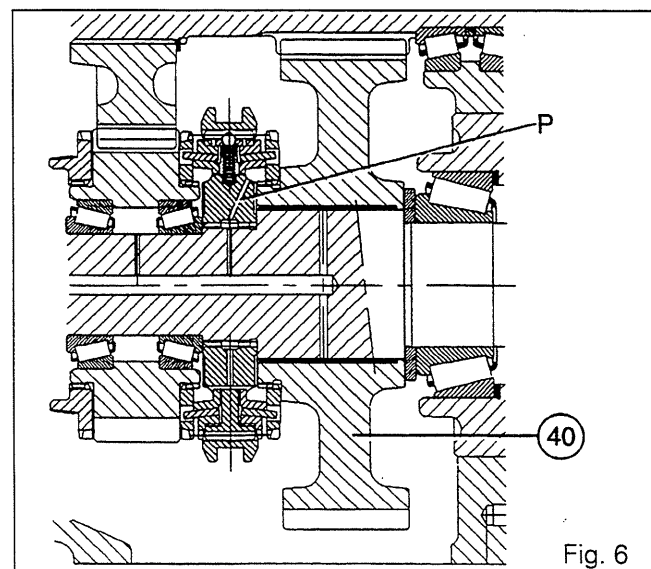

Fig. 6
24. Install the synchromesh assembly, with channel "P" or the paint mark oriented towards the Tortoise gear (40) (Fig. 6).